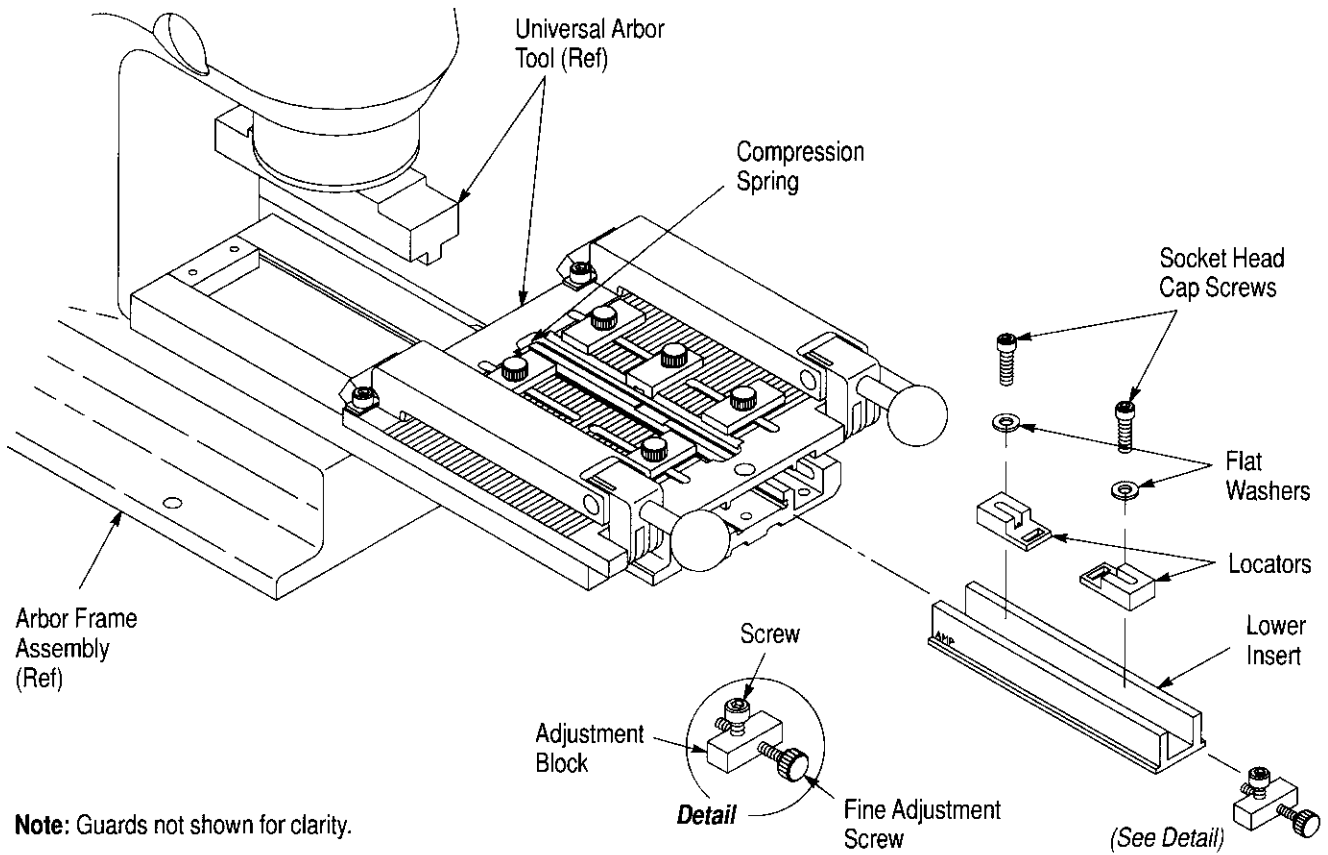

Figure 2
1. Secure the locators onto the lower insert using the flat washers and socket head cap screws. Tighten the screws just enough to hold the locators in place. Refer to Figure 2.
4. Remove the screw that secures the adjustment block to the universal arbor tool, then remove the adjustment block. Slide the lower insert onto the base assembly until it is against the compression spring. See Figure 2.
5. Re-assemble the adjustment block. *Make sure* to orient the block so that the fine adjustment screw is closest to the right side and bottom side of the block. See detail in Figure 2.